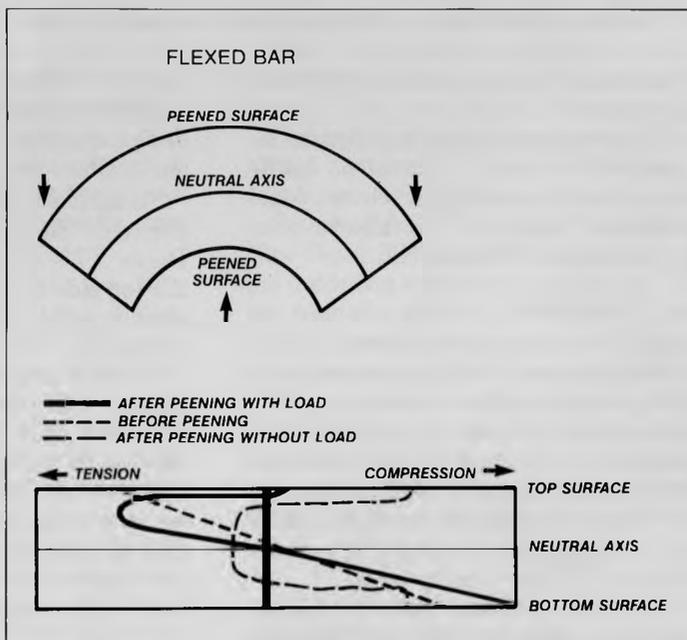

FIGURE 2: Flexed bar after peening with graph showing comparative magnitudes of tensile and compressive loading.
The effect of peening that outermost layer is shown in FIGURE 2. Note that without load, the skin of the peened material has residual compressive stress. When tensile forces are applied, the net result in the outermost layer of material (algebraic sum of tensile and compressive forces) could be slightly compressive, but will in any event result in lower levels of tensile stress compared to the unpeened material. This would, of course, tend to suppress crack initiation and increase the fatigue life of the part.
■ FIGURE 2: Histogram of mean resultant forces for the control and experimental groups from pre-test, post-test 1, and post-test 2 evaluations.
FIGURE 2 presents the mean resultant forces of the left and right leg for each group for the pre-test, post-test 1, and post-test 2 evaluations. Statistical analysis indicates that the experimental group reduced the pedal forces significantly over the 10 days while the control group showed no significant reduction in pedal force. However, because of the large variation in pedal forces *within* each group, statistical analysis showed that the large difference in the mean pedal forces *between* the groups was not statistically significant. A subsequent study with more riders will provide a more realistic test of the between-group differences.